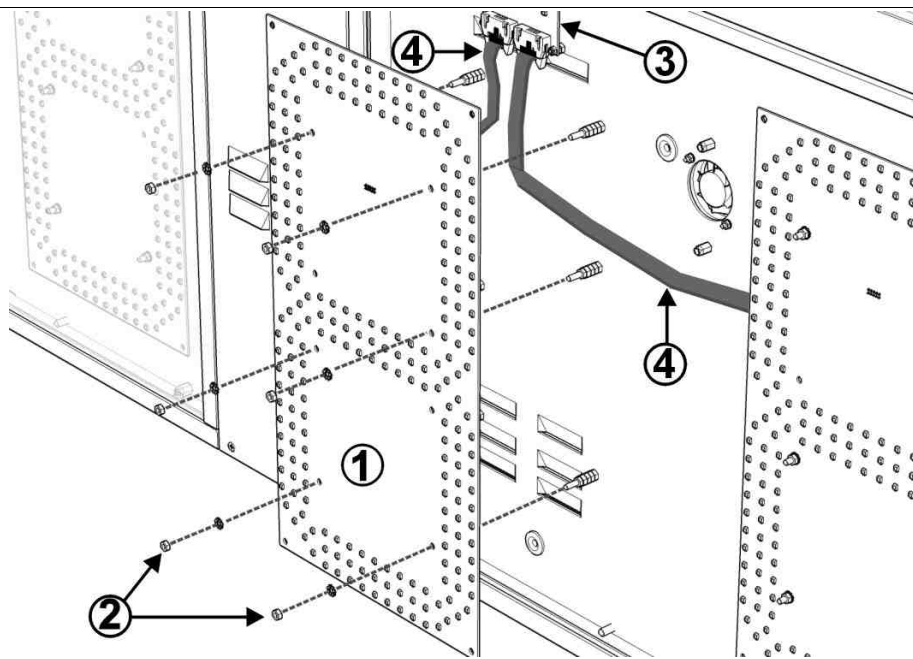

Fig. 22: Replacing a **DIGIT** board
2. Unscrew the fastening screws of the board, remove the board from its place, and disconnect the flat cable. The example in Fig. 22 refers to a **DIGIT** board.
2. Unscrew the fastening screws and remove the **DIGIT** board (Fig. 22) located in front of the **DRIVER** board.